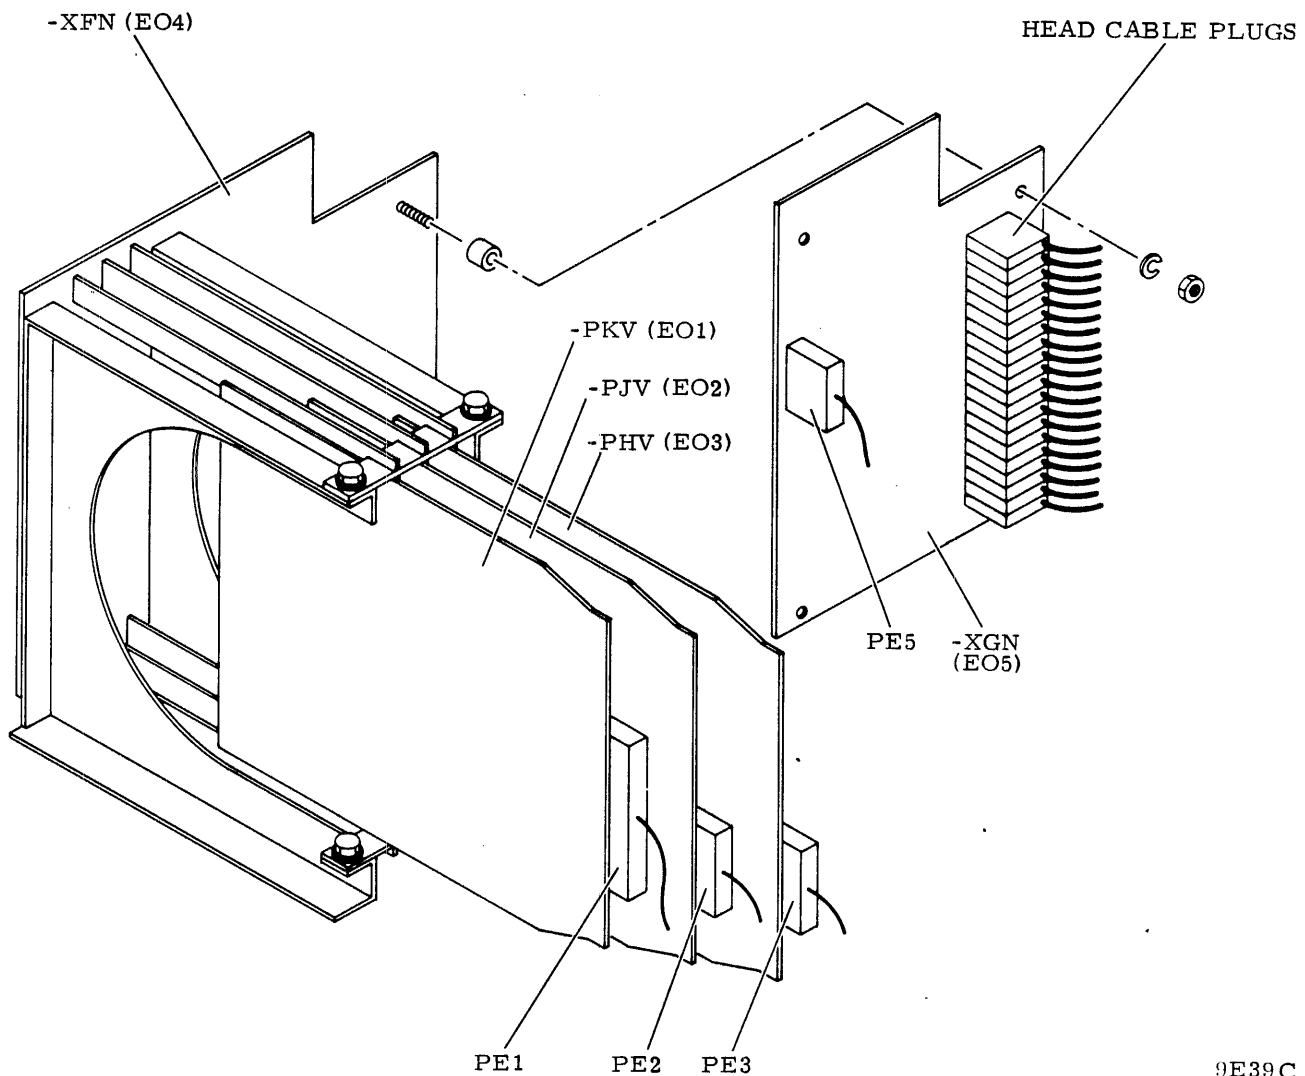

Figure 6-26. Read/Write Chassis Card Replacement
The \_XGN card is located in read/write chassis location E05. It is mounted on the \_XFN card in location E04 (the \_XFN card is also referred to as the mother board). Replacing the \_XGN card involves removing the read/write chassis from the deck and then removing the \_XGN card from its position on the mother board (refer to figure 6-26).
4. Remove read/write chassis from deck as follows (refer to figure 6-26):
5. Remove \_XGN card from mother board as follows (refer to figure 6-26):
2. Separate mother board from read/write chassis by removing hardware (refer to figure 6-26) then set mother board aside.